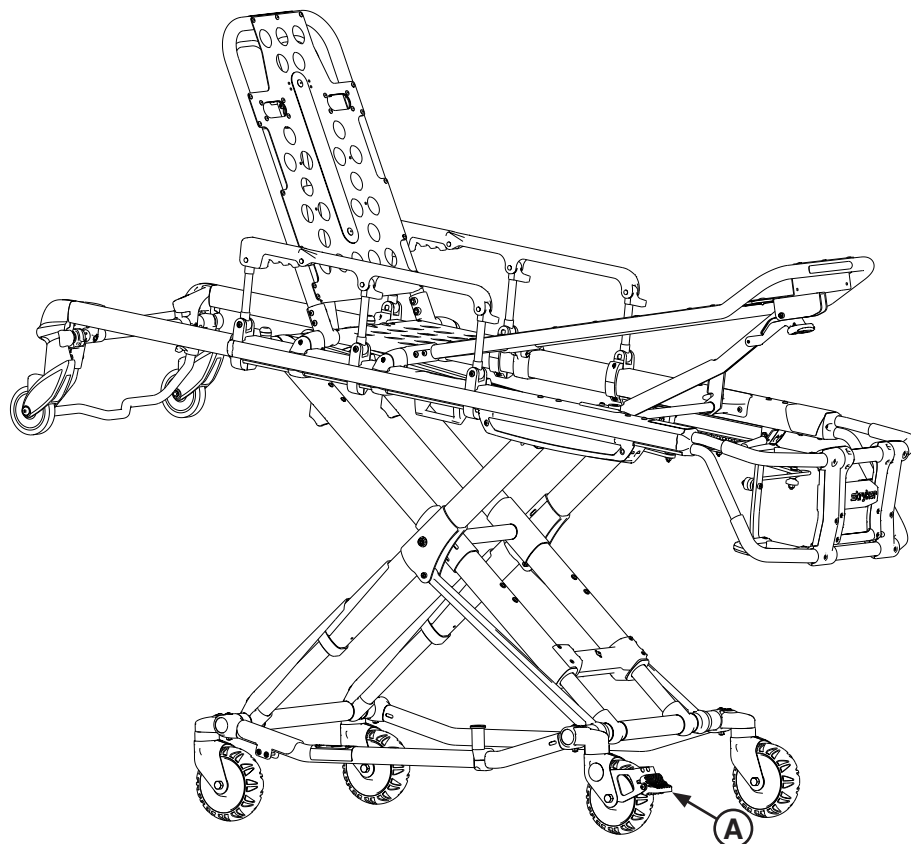

Figure 36: Wheel Lock
To activate the optional wheel locks, press fully down on the pedal (A) as shown in Figure 36 until it stops and is resting firmly against the surface of the wheel.